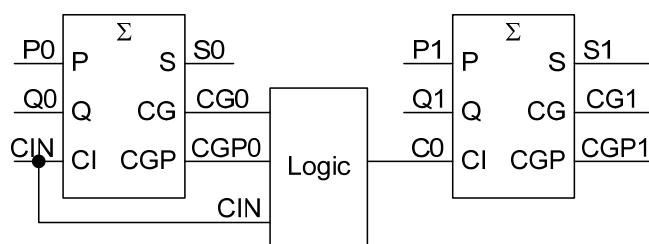

Figure 1.4
- (d) Figure 1.4 shows the two least significant bits of a carry-lookahead adder. The CG and CGP outputs from each adder stage are defined by